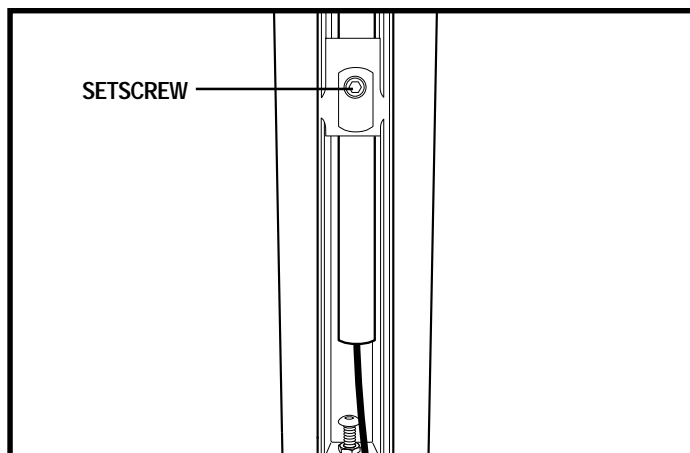

Figure 20. Underside of Armrest
5. Flip up the armrest and loosen the setscrew. See figure 20.